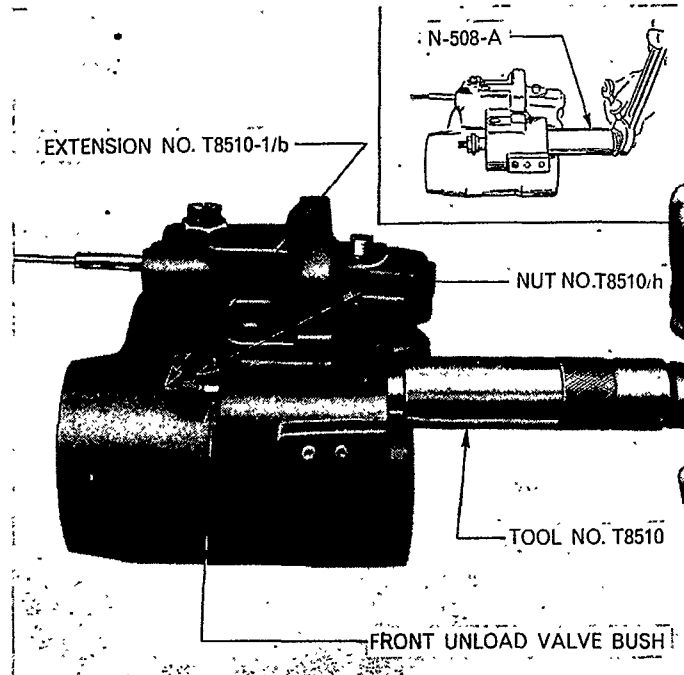

Figure 66
8. Repeat this operation for the unload valve bushings, seating the nut against the rear face of the rear bushing and withdraw both bushings at the same time, Figure 66.